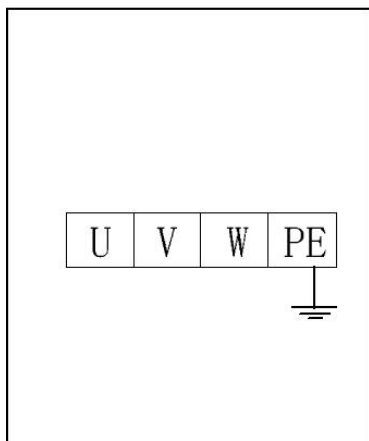

Fig 12
- Connection of power line: Connect the 380V three-phase four-wire power line (cable of $3 \times 2.5\text{MM}^2 + 1 \times 1.5\text{MM}^2$) to the control cabinet interfaces L1, L2, L3 and input terminal, and connect the PE ground wire to the marked ground bolt firstly and then to the marked ground bolts at the bottom of the two platforms (Fig. 12).